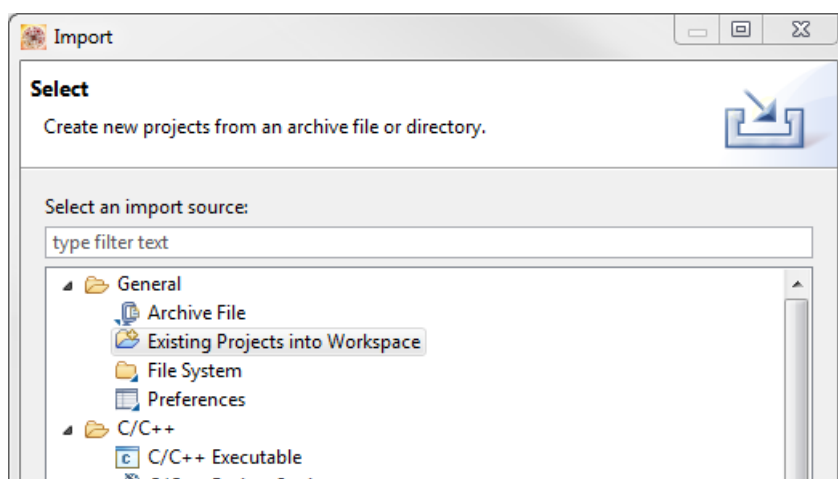

Figure 1-1. Project import
3. Select File > Import... so that the Import dialog appears. See Figure 1-1.